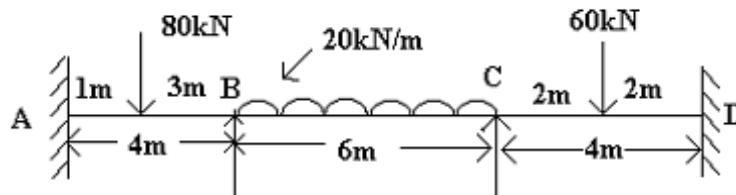

Figure 1:
4. Using Kani’s method determine the support moments for the three-span continuous beam with fixed end supports shown in Figure 1 ($EI = \text{constant}$). Sketch the B.M. and S.F. D. [16]